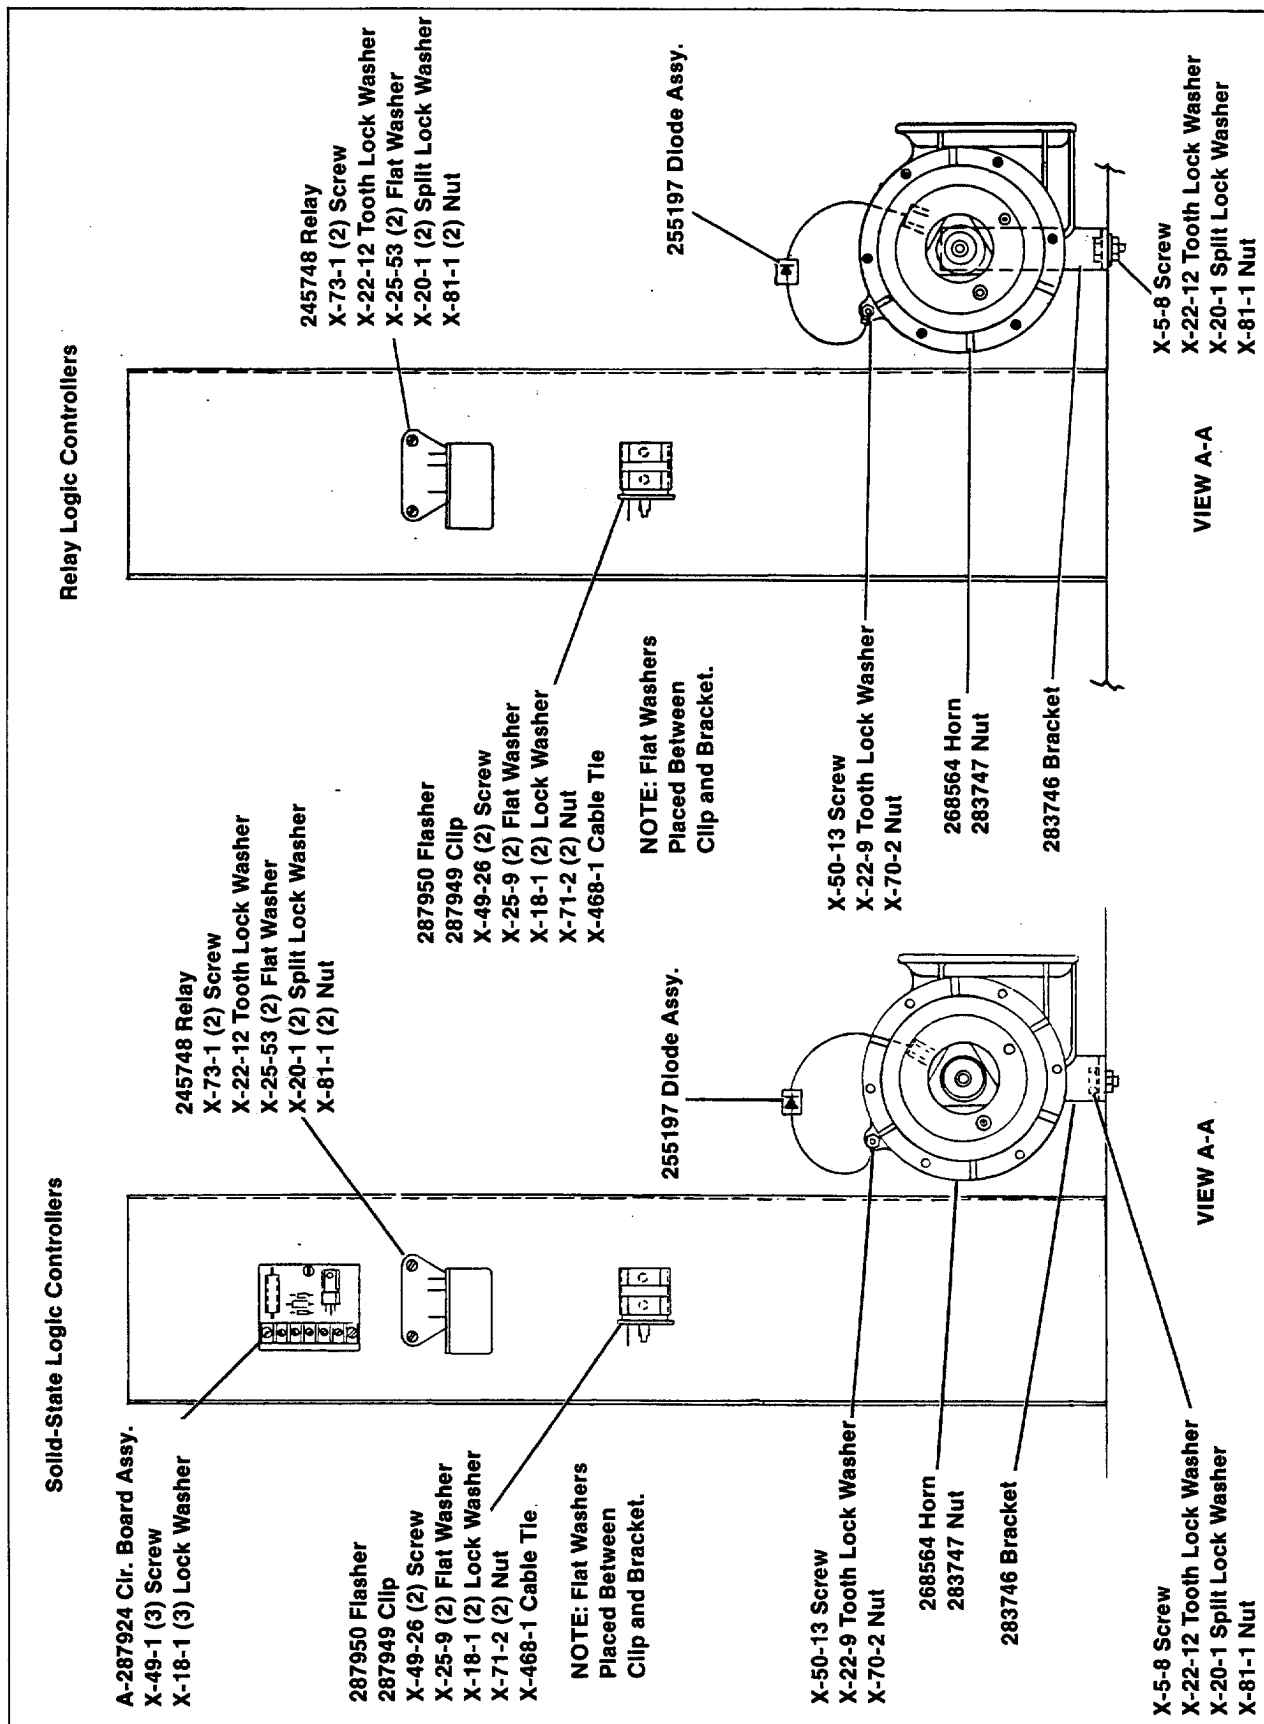

Figure 2. Installing Alarm Horn Kit
4. Mount horn bracket to junction box bottom using a screw, tooth lock washer, split lock washer, and nut. See Figure 2.